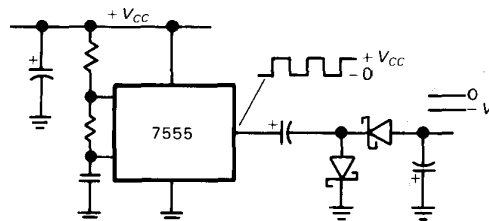

Figure 14.23. Negative-voltage generator from a positive square wave.
3. Figure 14.23 shows a simpler method, again somewhat limited in voltage range, using the CMOS 7555 timer chip. You can power the 7555 from a positive supply in the range 2 to 18 volts, thus generating up to -15 volts or so. With a voltage multiplier (see Section 1.28) you can, of course, generate higher voltages, with correspondingly poorer regulation. If you have some CMOS logic in your circuit, you can use the output of a CMOS gate instead of the 7555. However, if you're using a high-performance CMOS family such as HC/HCT or AC/ACT, then you are limited to 5 volt logic swings, whereas the older 4000 or 74C series permit 15 volt swings, albeit at lower current.